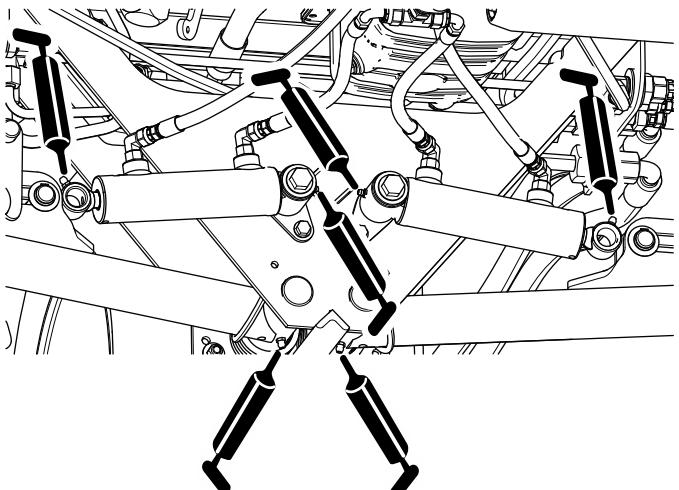

Figure 47
- Rear lift-arm pivots and lift cylinders (3 each side); refer to Figure 47.